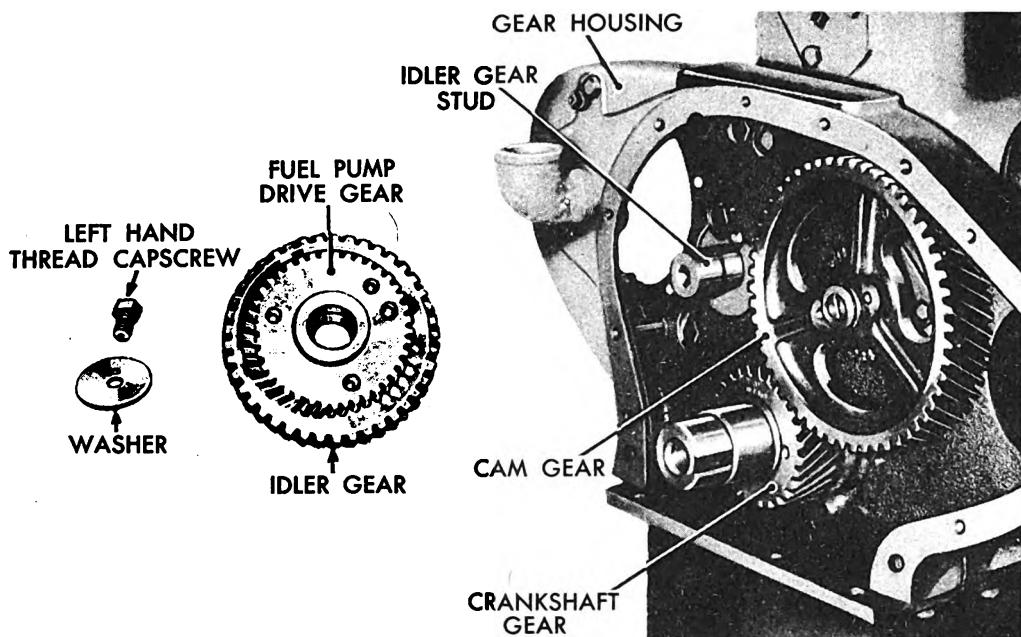

Fig. 174. Installing Idler and Pump Drive Gear Assembly TL 36826
*k. Installing Idler Gear.* (1) Install the idler gear on the idler gear shaft with the larger gear (helical cut teeth) out. (See Figure 174.) If the idler gear was separated from the fuel pump drive gear and not reassembled, set the idler gear on the fuel pump drive gear so that the dowel hole matches with the dowel in the drive gear, and the center hole in the idler gear matches the pilot hub of the drive gear. Screw in the three capscrews and tighten the two gears together; safety wire the capscrews. (See Figure 131.)
(2) Screw the idler gear retaining washer and capscrew in place. This screw has a left-